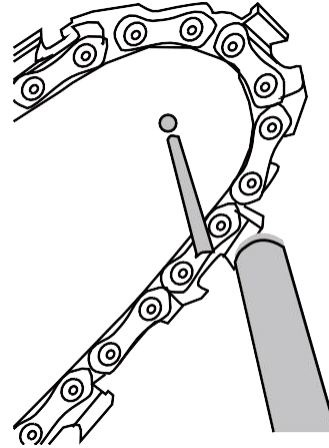

Fig. 16
2. Using a grease gun, insert the tip of the gun into the lubrication hole and inject grease until it appears at the outside edge of the sprocket tip (Fig. 16).